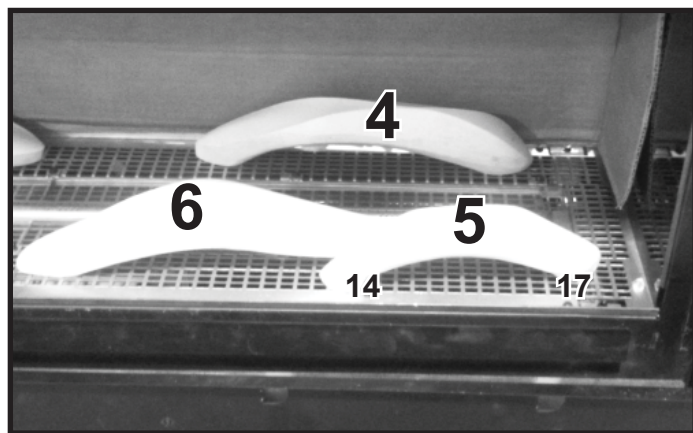

Figure 11. (SRV2310-755)
12. (SRV2310-755): Install Log #5 onto the shoulder screws by aligning the log placement holes with shoulder screws #14 and #17. See Figure 11.